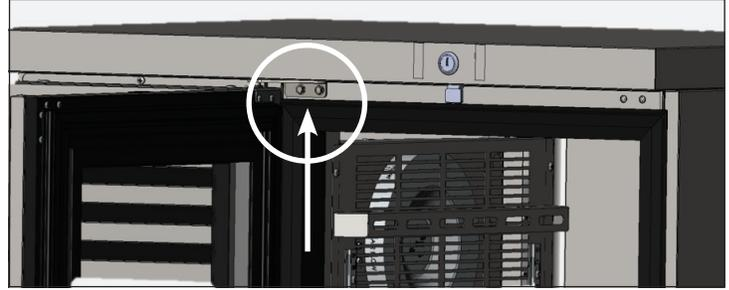

Fig. 1. Top hinge bolt locations.
1. Locate and remove the bolts securing the top hinge bracket to the front of the cabinet base. Remove the bolts. See fig. 1.